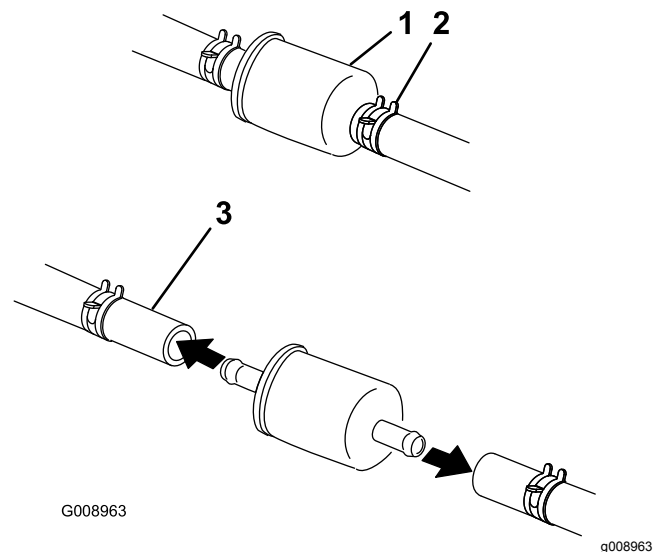

Figure 53
4. Close the fuel-shutoff valve under the seat (Figure 53).
5. Squeeze the ends of the hose clamps together and slide them away from the filter (Figure 53).
7. Install a new filter and move the hose clamps close to the filter (Figure 53).